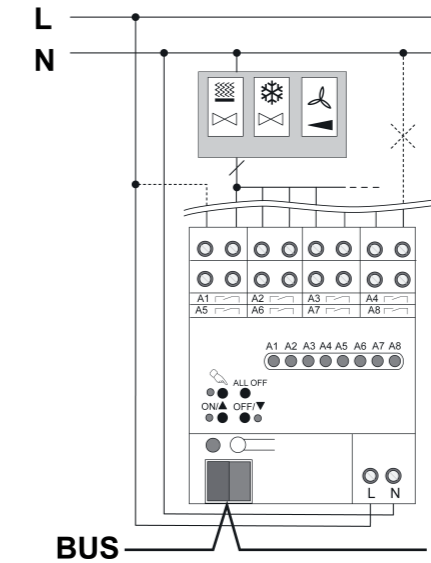

Figure 3: Connection example – load connection for 1 fan-coil output
- o Connect bus cable with connecting terminal (figure 3).
- i A fan-coil output with up to six fan levels: see connection example (figure 3). Information regarding assignment of the outputs in (table 2), (figure 4) and (figure 5).